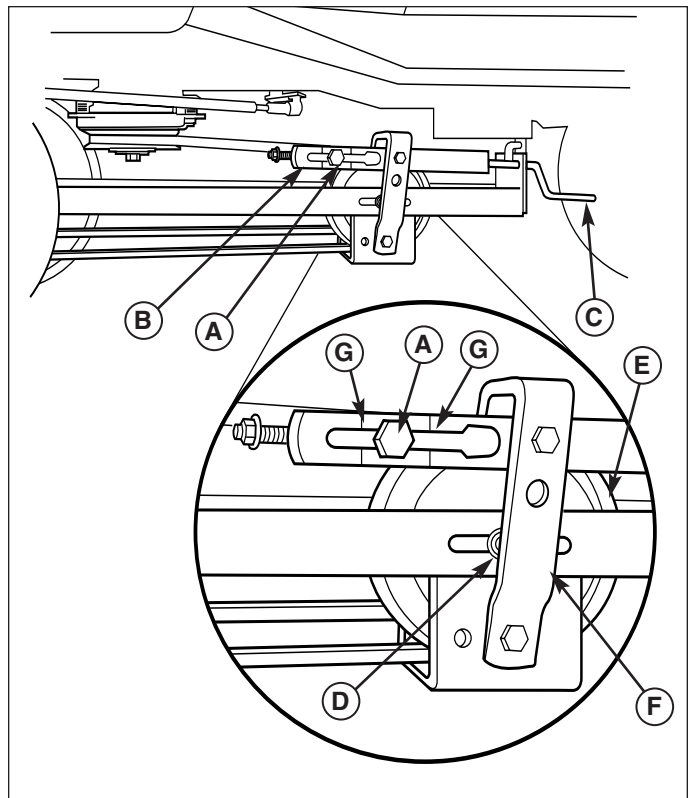

Figure 32. Adjusting Belt Tension
8. With the snowthrower drive belt installed, the trunnion (A, Figure 32) should be between the marks (G) on spring tension bracket (B) for correct belt tension. Turn belt tension handle (C) to move trunnion forward or rearward until between marks.